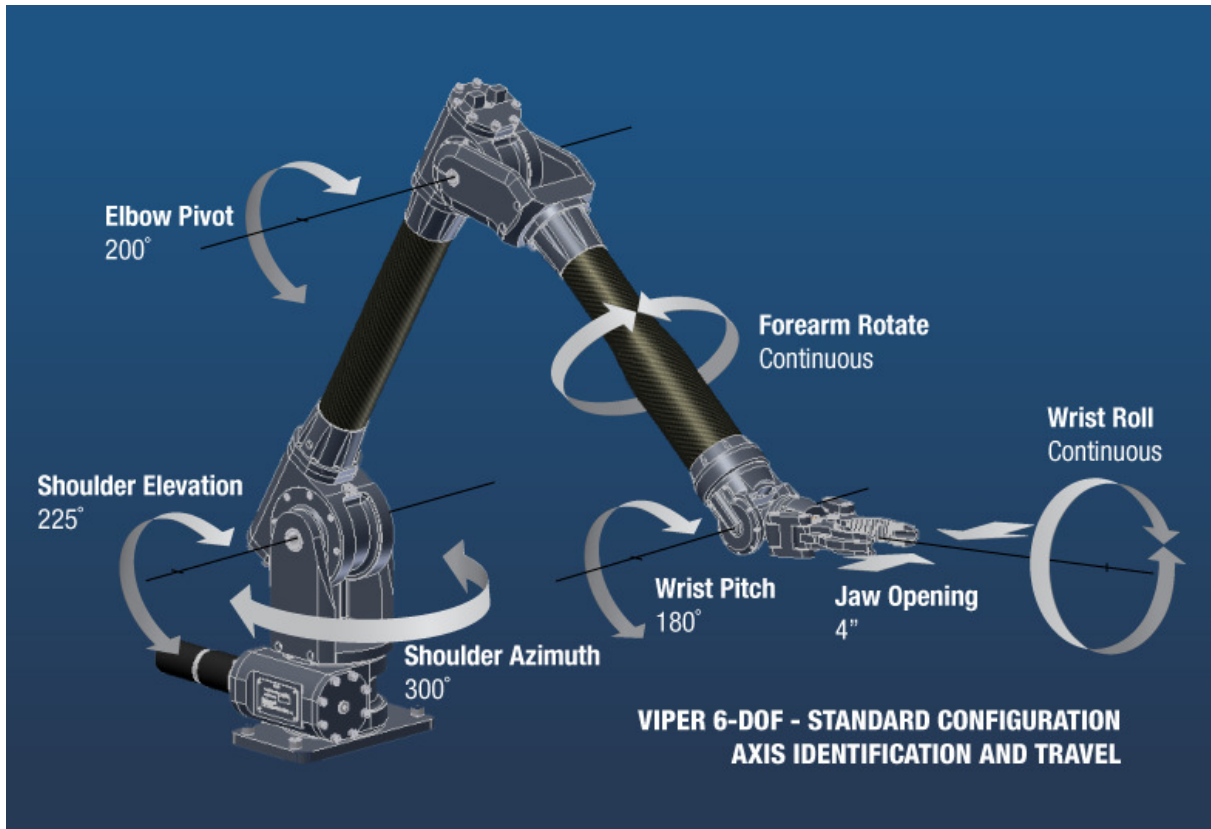

Figure 3: Kraft Viper manipulator for Problem 5.
5. Consider the Kraft Viper manipulator in Figure 3.